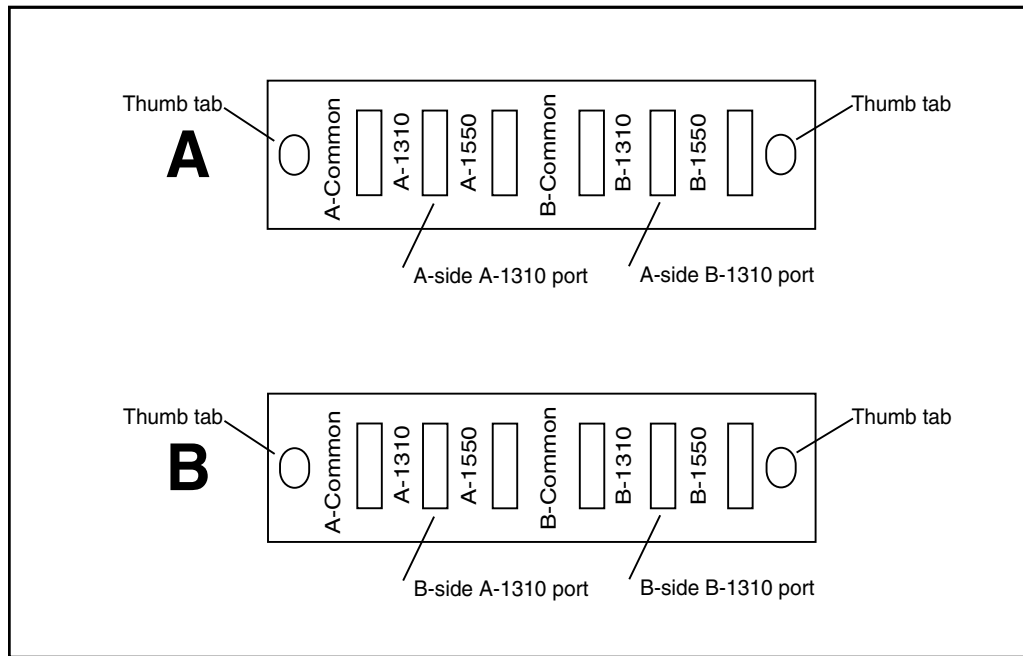

Figure 2. 1310 Ports on the A- and B-Side WDM Modules
1. Locate the 1310 ports on the A- and B-side WDM modules. Refer to Figure 2.
10. Locate the 1310 ports on the A- and B-side WDM modules. Refer to Figure 2.